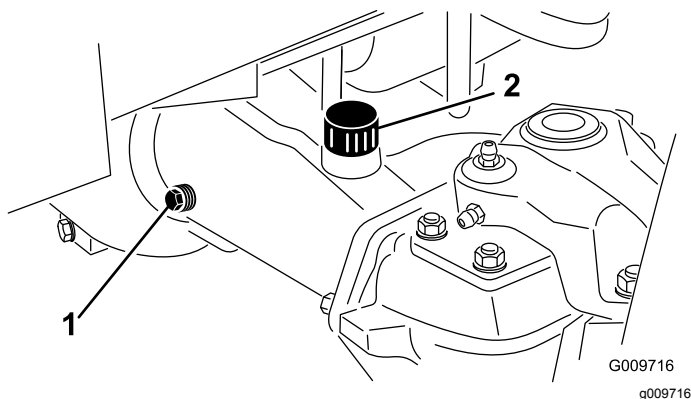

Figure 46
2. Remove a check plug from one end of the axle (Figure 46) and make sure that the lubricant is up to the bottom of the hole. If the level is low, remove the fill plug (Figure 46) and add enough lubricant to bring the level up to the bottom of the check plug holes.